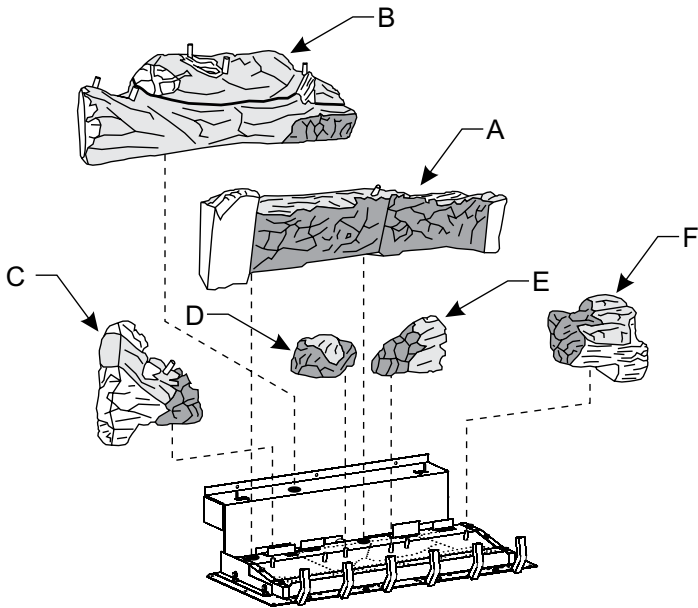

Figure 67
**Attention:** Refer to Log Identification Page 41, and Figures 67 and 68 to order logs.